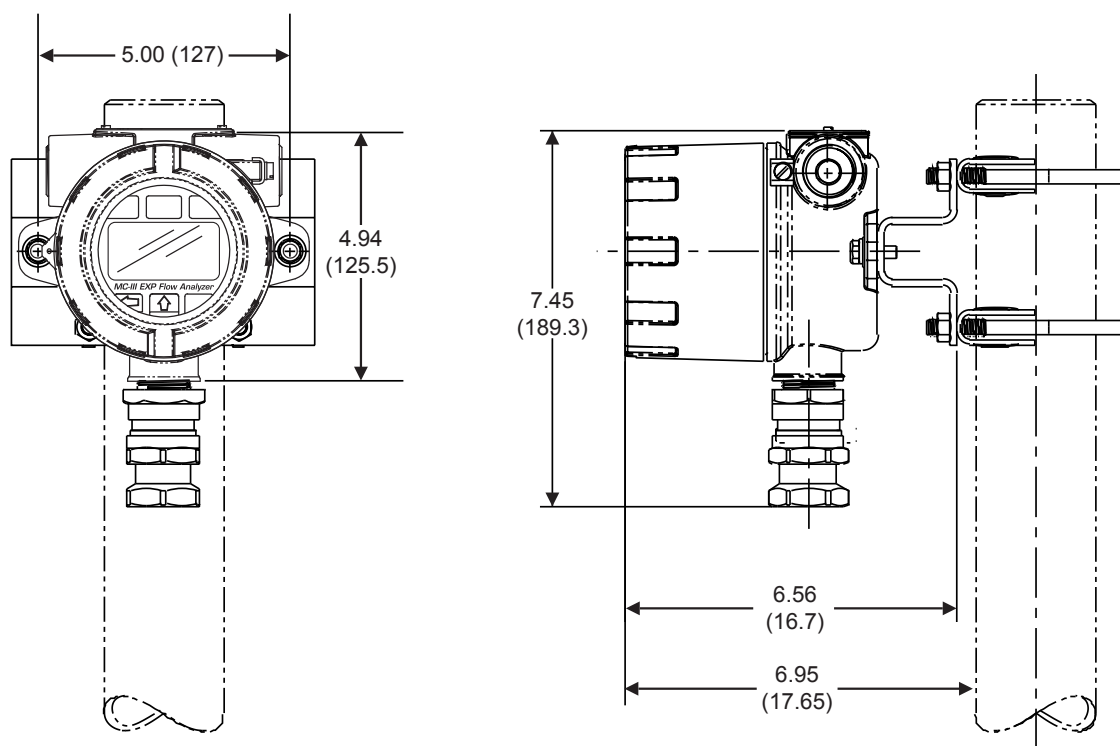

Figure 2.4—Remote mount on a 2-in. pole using a NuFlo hardware kit (Part No. 9A-30028004)
- Remote-mount the device to a 2-in. pole using a NuFlo hardware kit (Figure 2.4, page 22). Pole mounting may be preferred where limited space or pipe vibration prohibits direct-mount installation. For best results, install the device as near as possible to the meter to minimize the length of explosionproof signal cable that must be used for communications. Stranded, shielded cable is recommended.